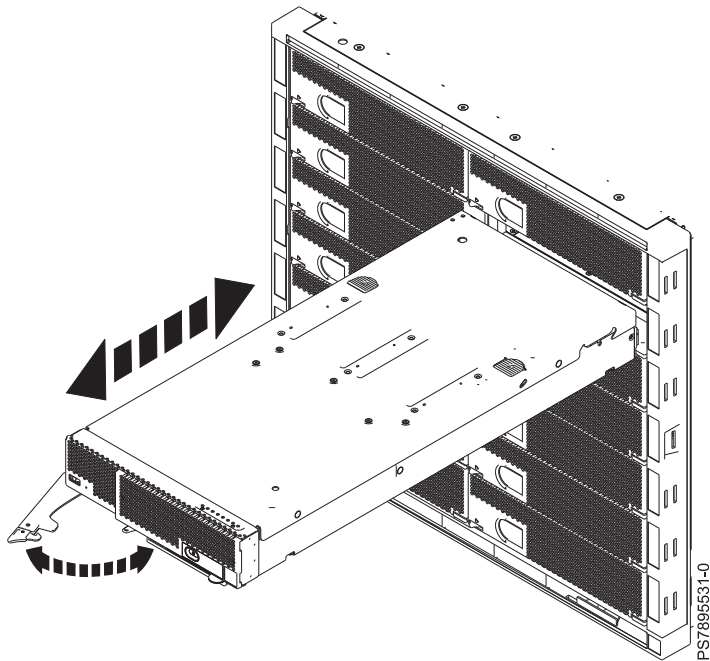

Figure 44. Installing the compute node in an IBM Flex System Enterprise Chassis
5. Verify that the release handles on the compute node are in the open position (perpendicular to the compute node, as shown in Figure 44 on page 93). For the IBM Flex System p260 Compute Node, there is one release handle. For the IBM Flex System p460 Compute Node, there are two release handles.